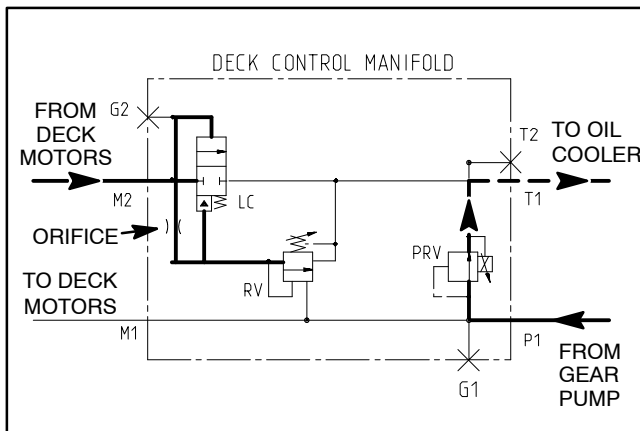

Figure 15
When the operator turns the cutting decks OFF, proportional relief valve (PRV) shift occurs in the deck control manifold (Fig. 15). This shifted valve allows oil return to the oil cooler and gear pump. Hydraulic pressure is reduced to the cutting deck motors which begins to slow the cutting blades and also allows the manifold relief valve (RV) to shift.